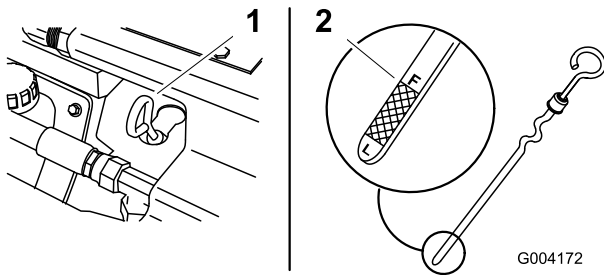

Figure 13
4. Clean around the oil dipstick (Figure 13).
5. Pull out the dipstick and wipe the metal end clean (Figure 13).
6. Slide the dipstick fully into the dipstick tube (Figure 13).